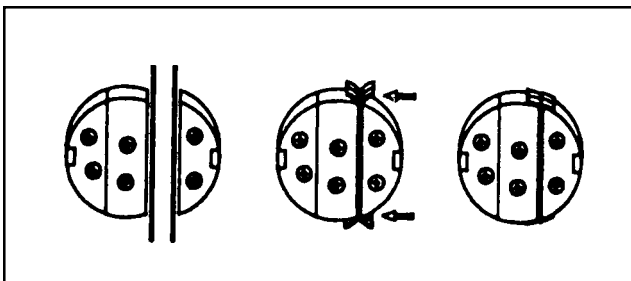

FIGURE 17 – TAPE FOLDING BACK
8.07 While tightening, the excess LOCK-TAPE Sealant extending from the End Plate section will fold back. When the LOCK-TAPE Sealant stops moving (folds back), the bolts are sufficiently tight. (Figure 17)